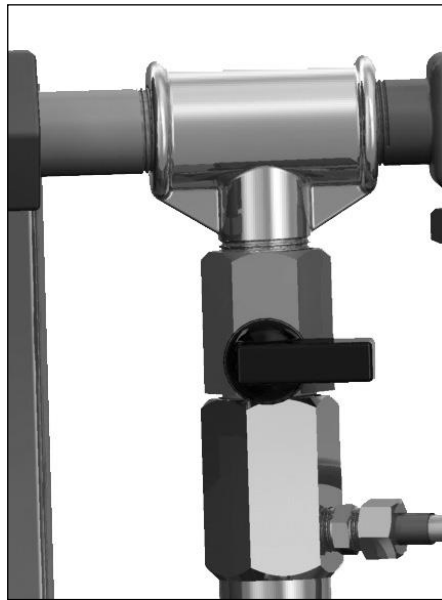

Fig. 6
1. Set the ball valve in the "shut off" position, as shown in Fig. 6 below.